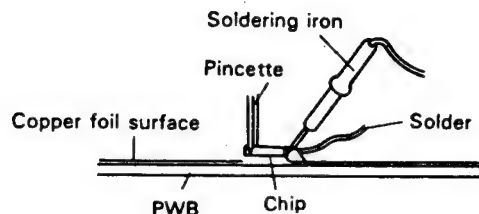

Figure 69.
2. Holding one end of the chip with a pincette, completely solder both terminals of it, one after the other. See Fig. 69.